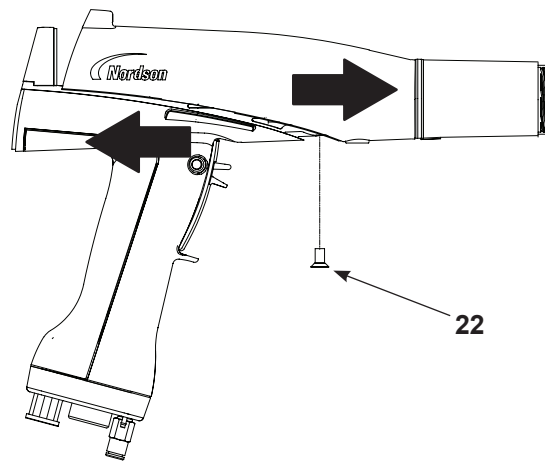

Figure 13 Removing the Gun Body from the Handle
4. See Figure 13. Remove the black nylon screw (22) from the gun body.